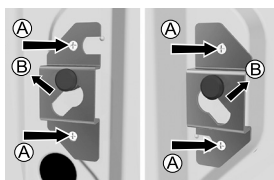

Fig. 1
- Loosen screws (A) at the rear of the machine (Fig. 1).
- Remove the brackets (B) (Fig. 1) and slide them into the groove on the blocking rod (Fig. 2) - the right one should be turned around.